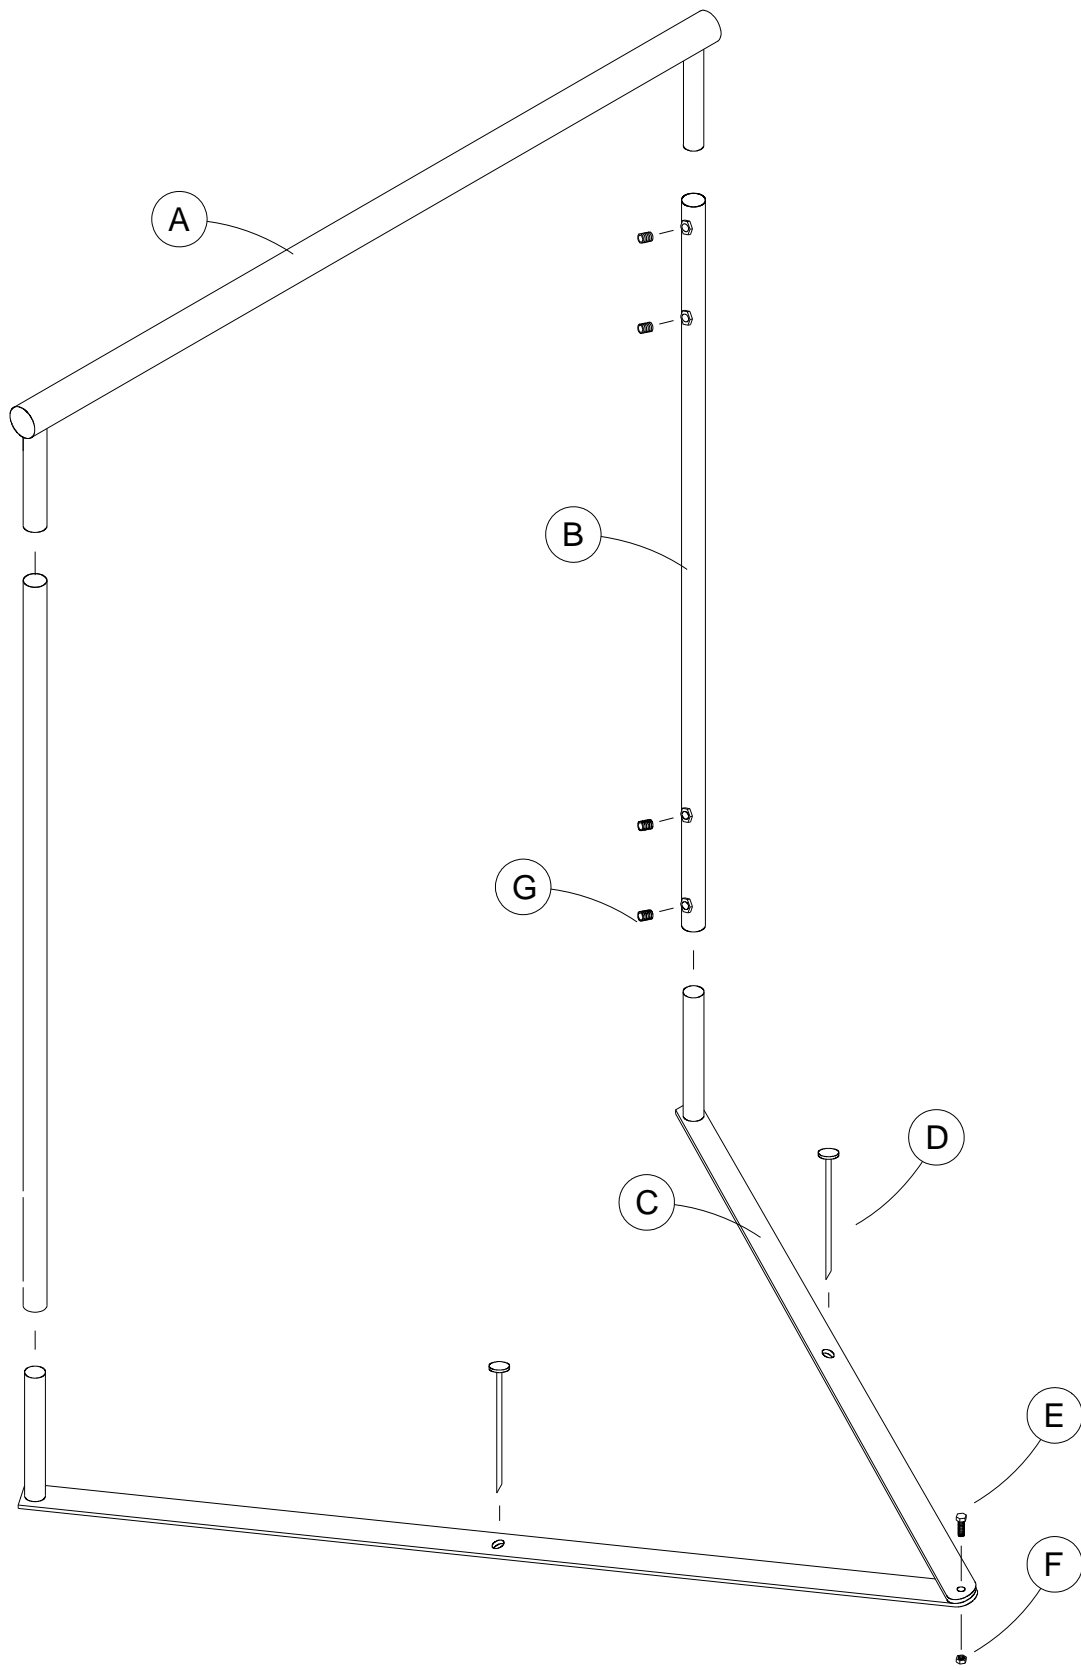

Figure 1
1. Slide the *Upright* (B) onto the *Crossbar Assembly* (A). Use *Allen Wrench* (H) on *Set Screws* (G) to secure together. See Figure 1.
2. Use the *1/2" Hex Bolt* (E) and the *1/2" Hex Nut* (F) to attach the *Ground Bars* (C) together. See Figure 1.
3. Slide the goal assembly down onto the *Ground Bars* (C). Use *Allen Wrench* (H) on *Set Screws* (G) to secure together. See Figure 1.
4. Use the *Stake* (D) to anchor the goal to natural turf. See Figure 1.